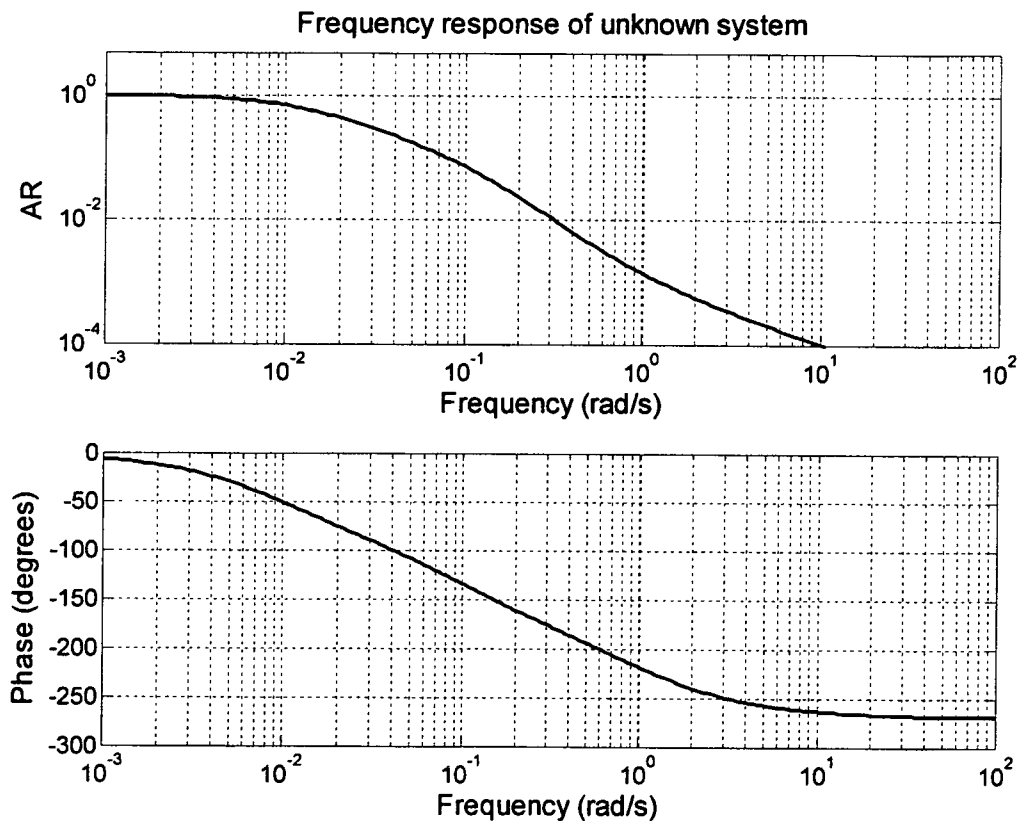

Figure 2. Bode diagram for transfer function $G_1(s)$.
- (v) Identify the transfer function $G_1(s)$ (form and parameters) given in Figure 2. [7]